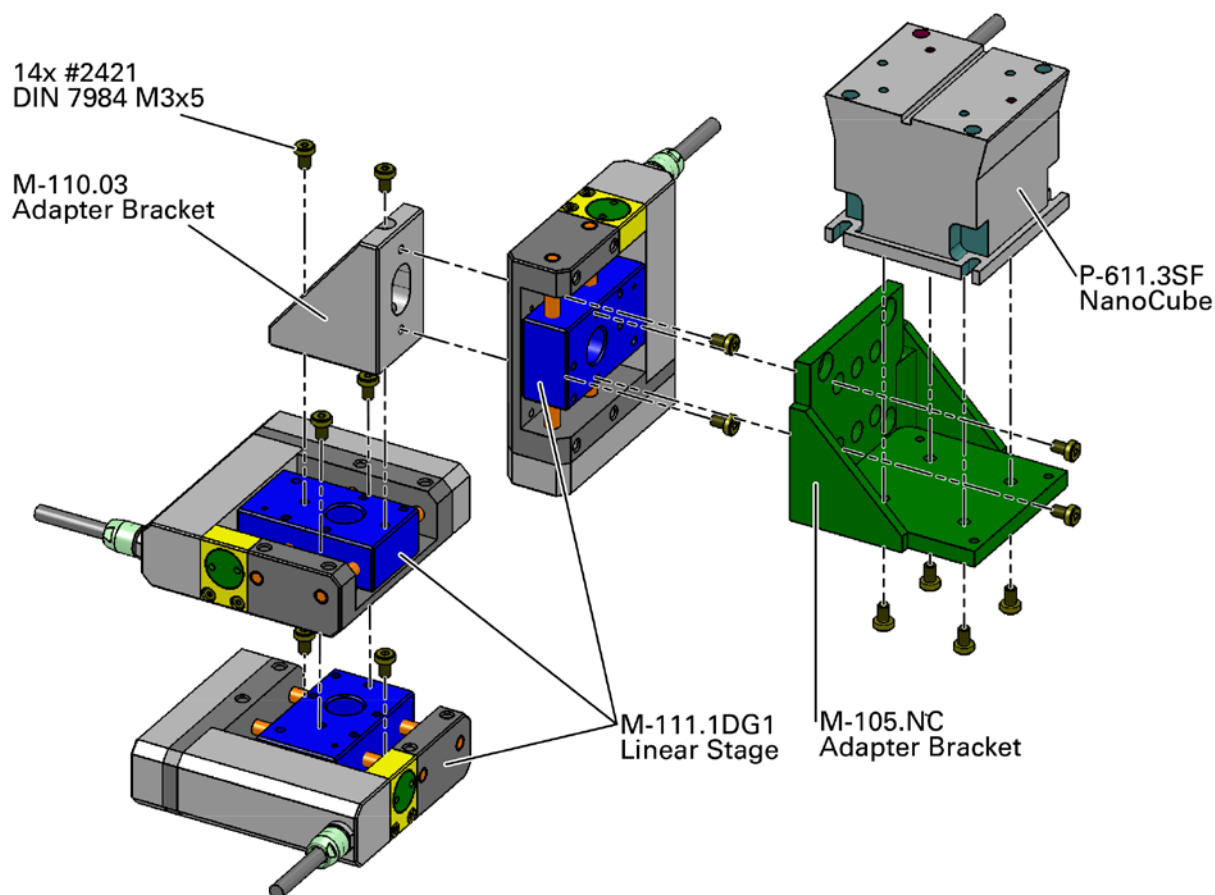

Figure 4: Assembly of the F-131.3SD1
3. Proceed the same way for the other components from bottom to top. Also see "Figure 4: Assembly of the F-131.3SD1"